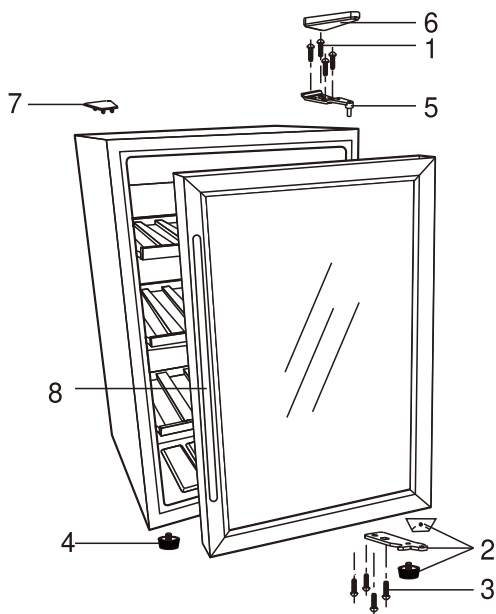

Fig.1
- Remove the upper hinge cover (Fig.1: No.6).
- Remove the screws (Fig.1: No.1) that secure the upper hinge (Fig.1: No.5) to the frame. Remove the upper hinge (Fig 1: No. 5).
- Remove the screws (Fig 1: No.3) that hold the lower hinge, front leg and door stop (Fig.1: No.2). Remove the lower hinge, front leg and door stop (Fig. 1: No.2).
- Remove the front leg (Fig. 1: No. 4) and transfer to opposite side.
- Remove the handle (Fig. 1: No. 8) and install to the opposite side of door. (See Changing the Handle section on page 10).